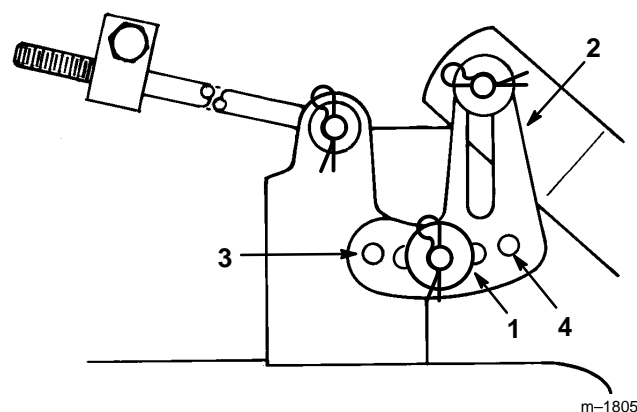

Figure 47
5. Remove the hair pin cotter and washer from the leveling bracket (Fig. 47). To level the blade(s), reposition the leveling bracket in a different hole and install the washer and hair pin cotter.
(Fig. 47). A front hole lowers the blade height and a rear hole raises its height. Repeat this procedure on the opposite side.